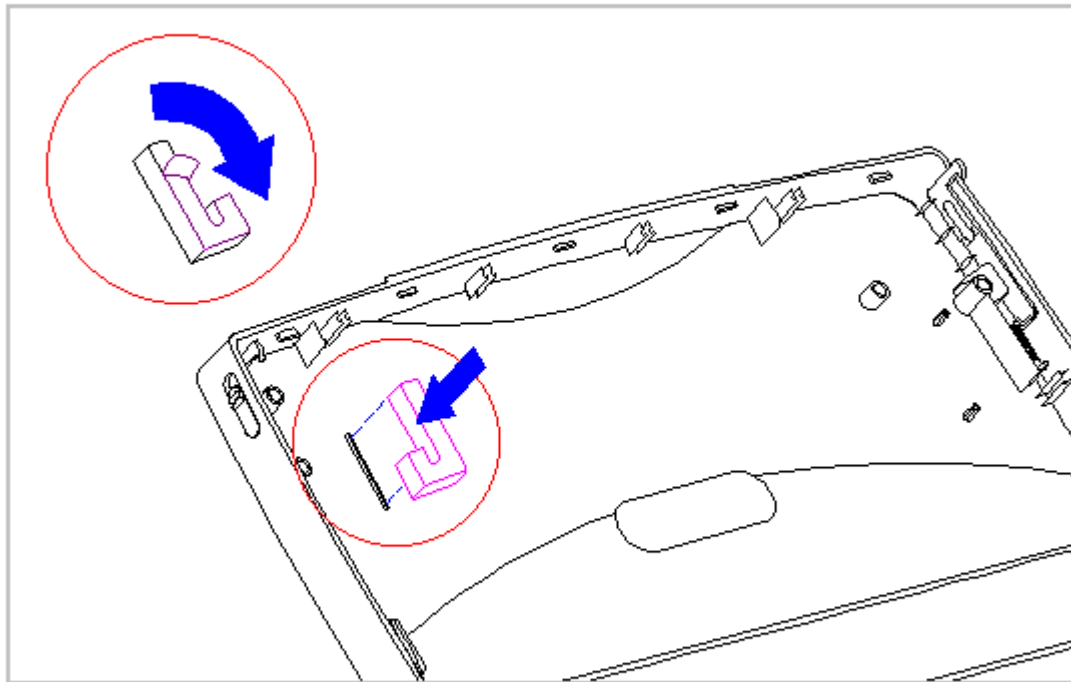

Figure 3-152. Adding the Rubber Pad for the Sharp CSTN (10.4 inch) Panel (Models 420 and 430)
3. If the CSTN panel is manufactured by Sharp complete this step. If not, continue to the next step. Peel off the adhesive from the back of the rubber pad found in the spare kit. Place this pad on the display enclosure indicated by the embossed area (Figure 3-152).